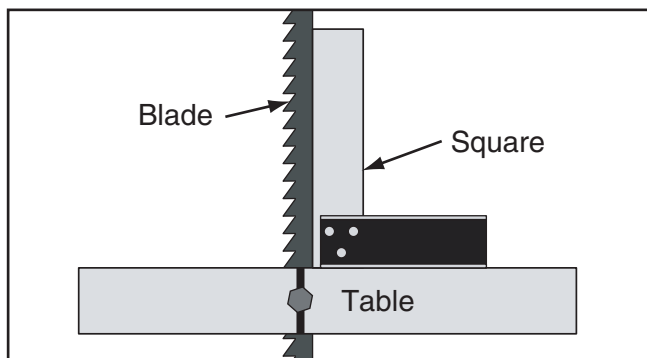

Figure 56. Squaring back of blade and table.
- Place a square on the table and against the back of the blade, as shown in **Figure 56**. The table should be perpendicular to the back of the blade.